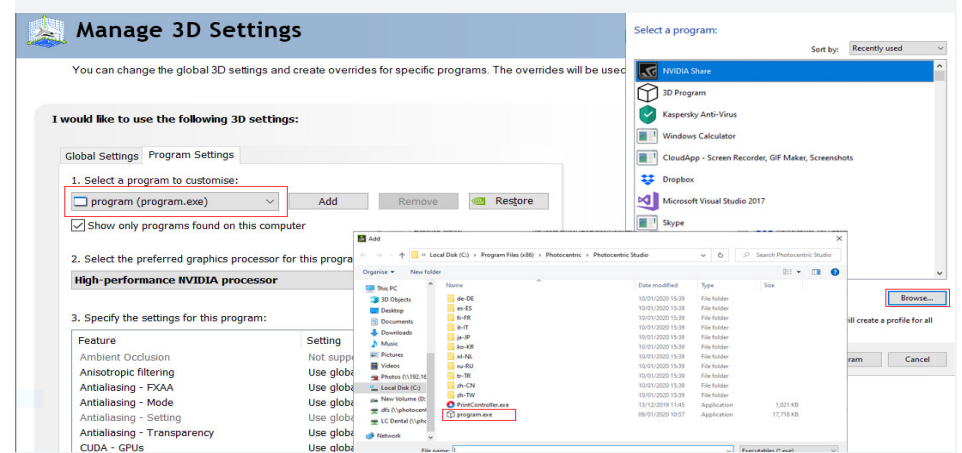

Figure 3
2. Select 'Program Settings', click 'Add' (figure 3).
3. Select 'Local Disk (C)', 'Program Files', 'Photocentric', 'Photocentric Studio' then click 'Open' (figure 3).